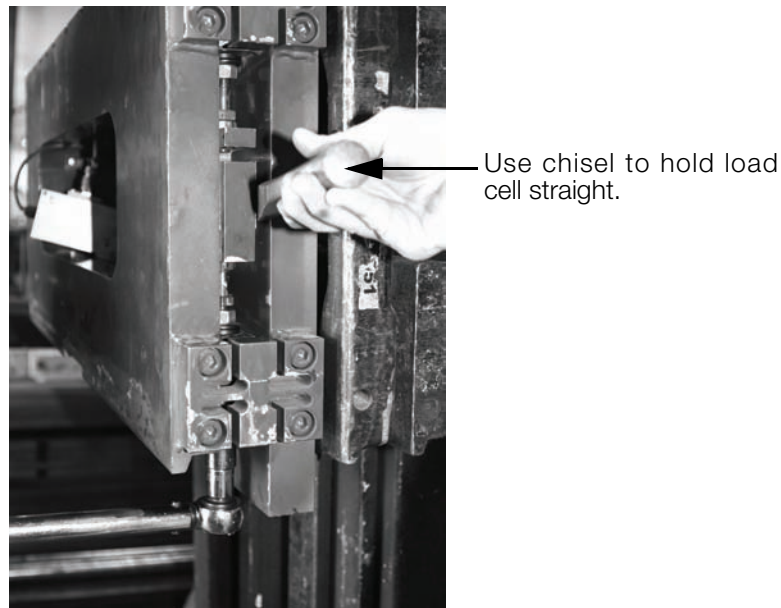

Figure 2-11. Use Chisel to Hold the Load Cell in Straight
24. Tighten the jam nuts on top and bottom of the load cell. Make sure they are tight and completely vertical to the scale. To accomplish this, you can use a pry bar or chisel to hold the cell straight as illustrated in Figure 2-11.